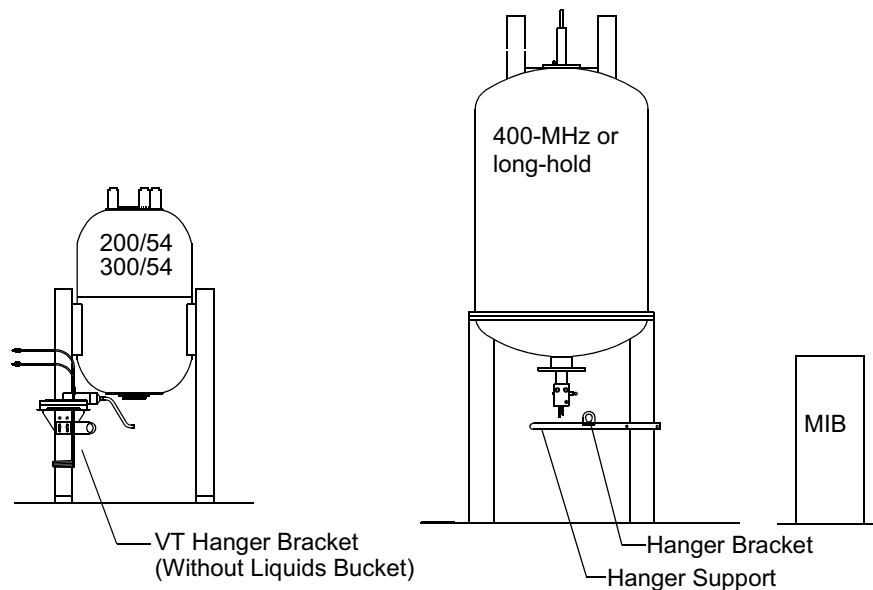

Figure 6. Installing the LN Container Bracket
1. Install the LN container bracket. Mount the bracket on the front or rear of the right-hand magnet leg, as shown in Figure 6. Make sure that the container assembly is not subject to damage from passing traffic.